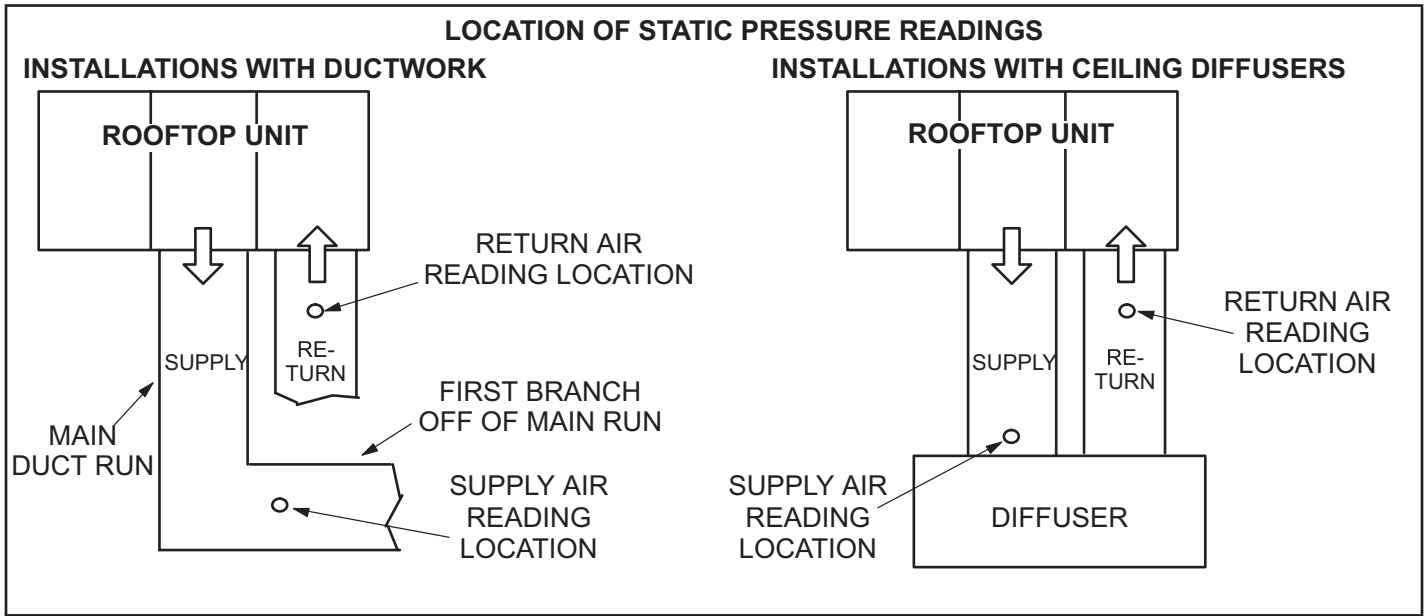

FIGURE 10
- 2 - With all access panels in place, measure static pressure external to unit (from supply to return). Blower performance data is based on static pressure readings taken in locations shown in FIGURE 10.
S20 and S157 are SPST N.C. manual-reset thermostats. S20 and S157 are wired in series with the heating elements. See E1EH wiring diagrams. When S20 or S157 open, power is interrupted to the heating elements which are wired in series with the limits. K15/K16 are only de-energized when S15 opens. When the contactors are de-energized, all stages of heat are de-energized. The thermostat is factory set to open at $220\text{F} \pm 6^\circ\text{F}$ ($104\text{C} \pm 3.3^\circ\text{C}$) on a temperature rise and can be manually reset when temperature falls below 160°F (71.0C). See figure 10 for location.